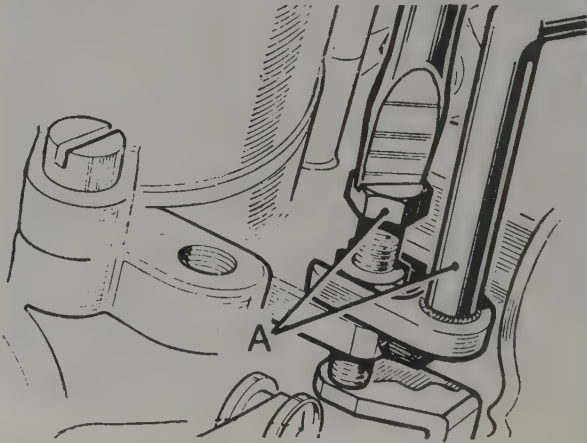

Fig. 3.23. Throttle stop adjusting screws (A)
- 8 Using the independent tachometer, (the instrument fitted to the car is not suitable), check the idle speed, which should be between 600 and 650 rev/min. If incorrect adjust by moving the throttle stop screws, first releasing the locknuts with a suitably modified spanner or tool (Fig.3.23).